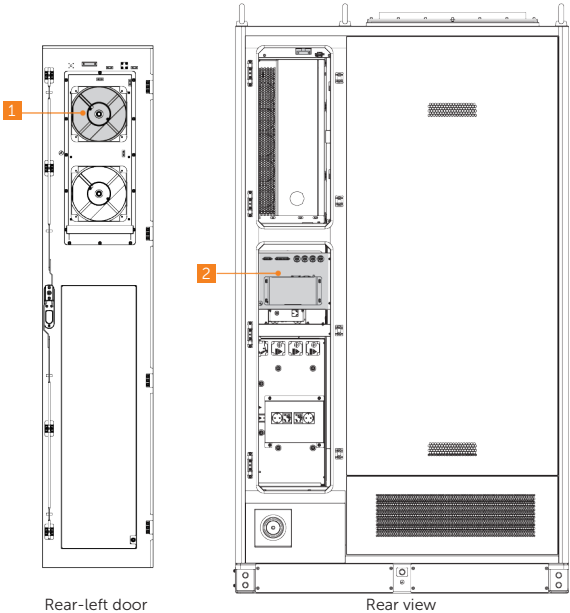

Figure 2-7 Interior parts in the rear view (cabinet door open)
- The control area is not fully visible. For details, see "Figure 2-7 Control area".